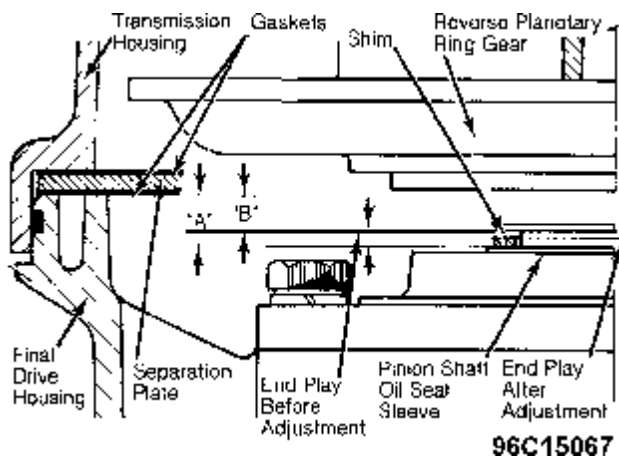

Fig. 29: Measuring End Play Between Transmission & Final Drive
2) Measure distance from top surface of straightedge to face of final drive housing. Subtract straightedge-to-face distance from straightedge-to-oil seal sleeve distance. Result is measurement "A". See Fig. 29. Note result for future reference.
4) Measure distance from top surface of straightedge down to shim surface on shoulder of reverse planetary gear set ring gear. Subtract straightedge-to-shoulder measurement from straightedge-to-gasket measurement. Result is measurement "B". See Fig. 29. Note and